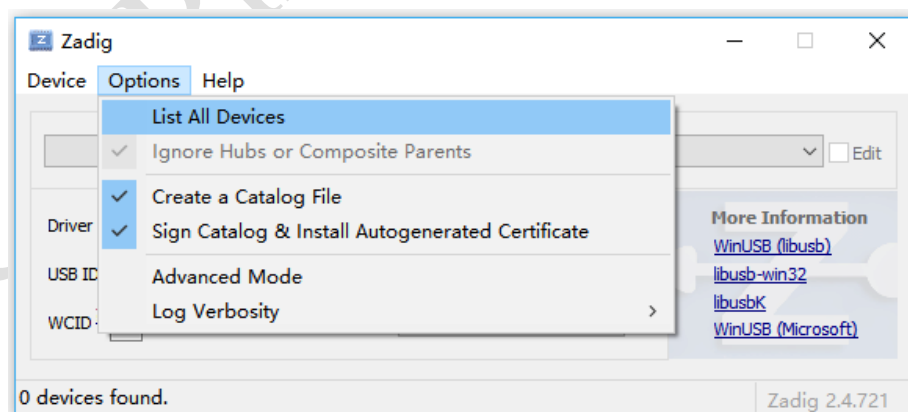
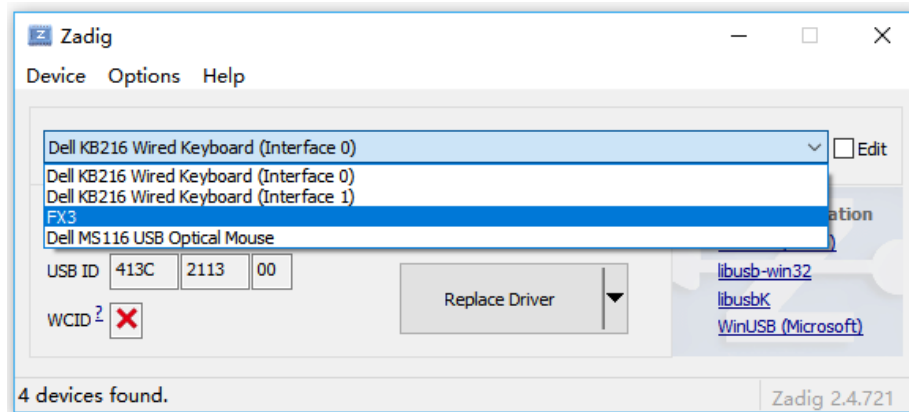

Fig. 2-2
Fig. 2-3
- (2) Select Options → List All Devices (Fig. 2-2), then select device FX3 (Fig. 2-3).